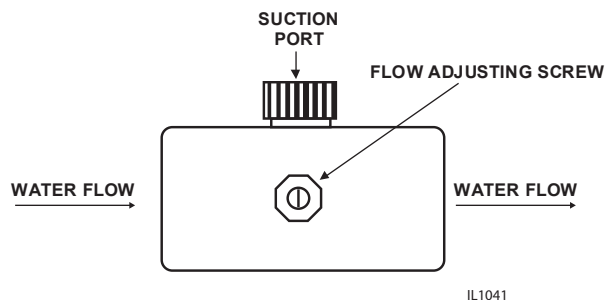

Figure 2
- Place finger lightly over SUCTION PORT (See figure 2). A slight suction should be detected for approximately ONE-THIRD of pumping cycle. (Do not confuse with one-third of PRESSURE RANGE).